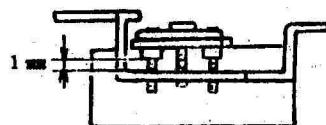

Fig. 119 ①
5. Peel off the protection tape on the surface of the S-LCD Panel and install the Viewfinder Indicator Holder (B) (1AA81800).
6. Tighten lightly the Viewfinder Indicator Adjustment Screws (1AA82000)×2 into the Viewfinder Indicator Base (1AA81900). And secure them until the gap is about 1 mm. (See Fig. 119 ①)